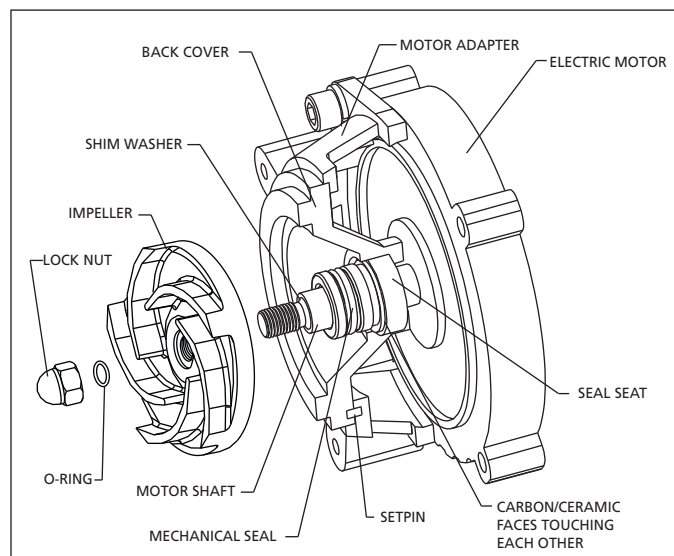

Figure 7 - Seal and Impeller Assembly
- Wet the inside rubber portion of the new seal head (Ref. No.5) with a light coating of soapy water. Slide head onto the motor shaft with the sealing surface (carbon) facing the seal seat (see Figure 7). This completes seal installation.